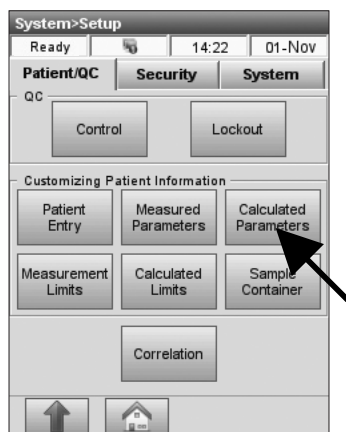

Fig. 3-28 Calculated Parameters
2. On the **<Patient/QC>** tab, press **<Calculated Parameters>** (Fig. 3-28).